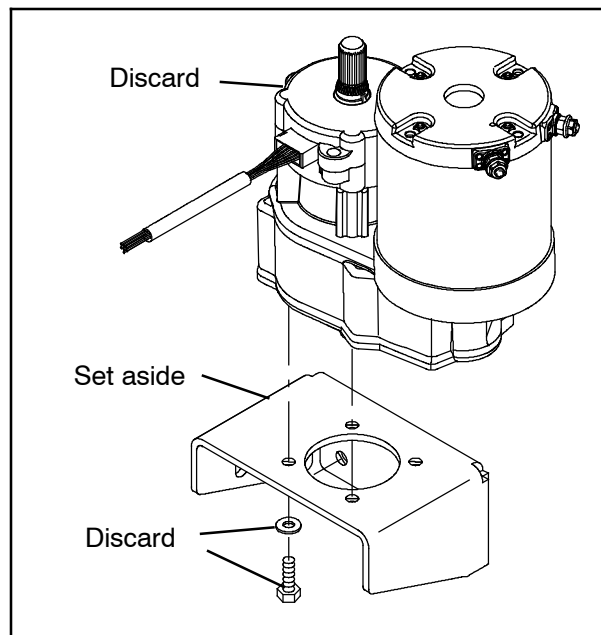

FIG. 6
8. Remove the power steering motor from the motor support bracket. Set the motor support bracket aside. Discard the power steering motor and the four M6 hex screws and flat washers. (Fig. 6)